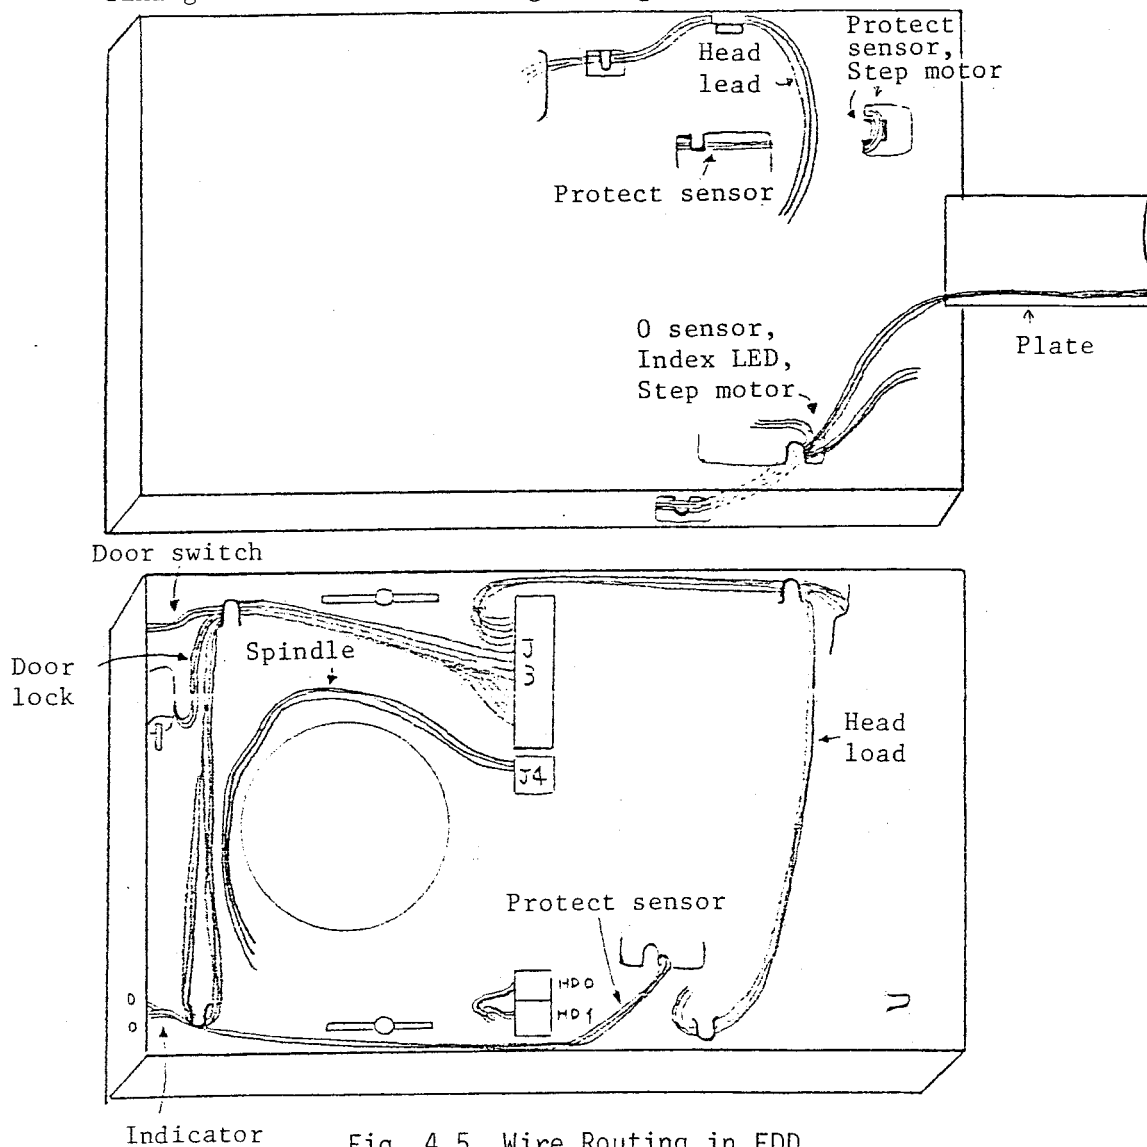
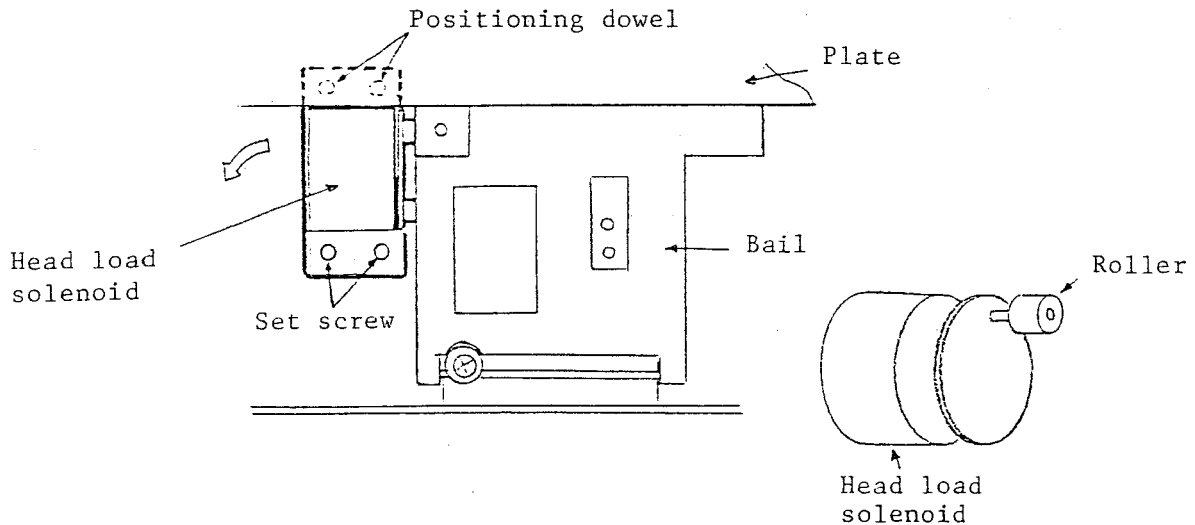

Fig. 4.5 Wire Routing in FDD
Fig. 4.8 Head Load Solenoid
After replacement, perform wiring with each clamper used for fixing on the base according to Fig. 4.5.
- (1) Tools and measuring instrument to be used:
- (2) Disassembling
- (e) Remove head load solenoid set screws ( $M4 \times 2$ ). While holding the bail steady by hand, pull out the solenoid in the arrowed direction (Fig. 4.8). Use care to keep the roller in place.
(3) Assembling
- (c) Install wiring according to 4.2.3 (wire routing shown in Fig. 4.5).
- (b) Install wiring according to 4.2.3 (wire routing shown in Fig. 4.5).
- (3) Assembling
- (c) Install wiring according to 4.2.3 (wire routing shown in Fig. 4.5.)